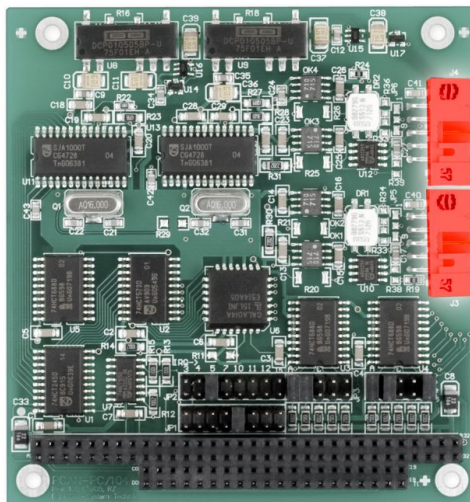

Figure 4: Connectors for the flat cables to the CAN connectors,
4. Interconnect the connector for each CAN channel on the PCAN-PC/104 card (see Figure 4) with the CAN connector of the slot bracket using the attached flat cable.